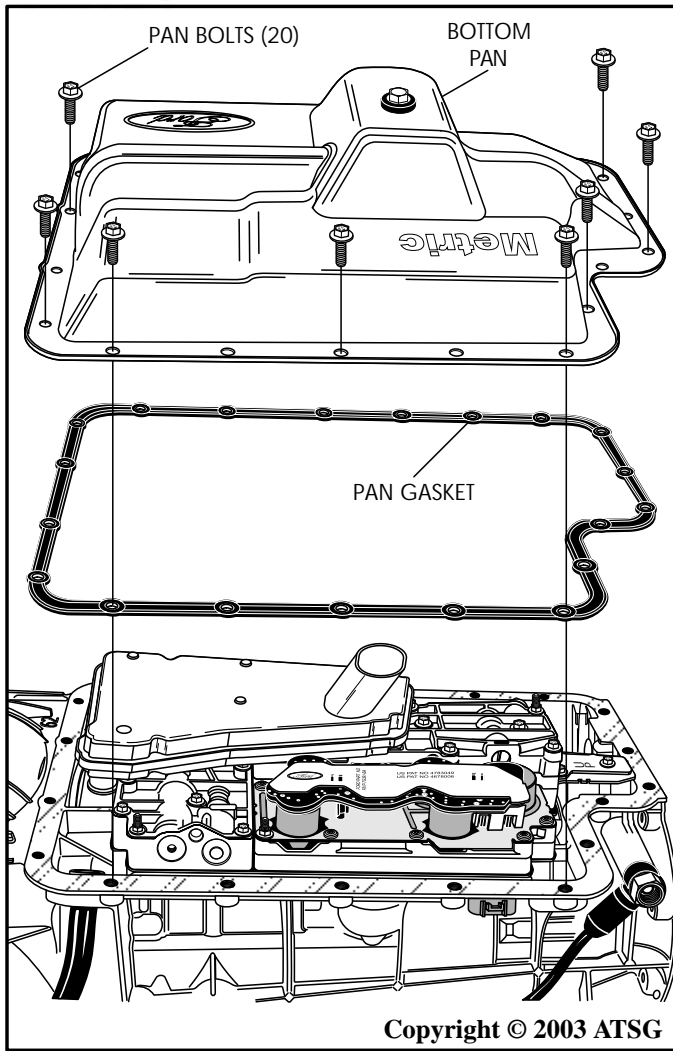

Figure 197
16. Install a new pan gasket on case surface, as shown in Figure 197.
17. Install the bottom pan on top of pan gasket, as shown in Figure 197.
18. Install the twenty (20) pan bolts, as shown in Figure 197, and torque all bottom pan bolts to, 14-16 N·m (10-12 ft.lb.).